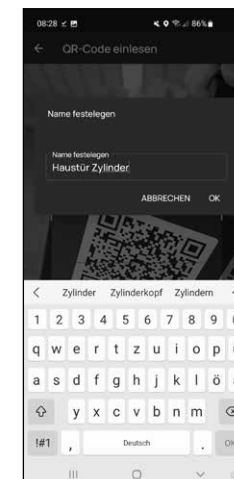

Fig. 6
- 7 In the following window, you will be prompted to assign a name for the cylinder. Where several cylinders and secuENTRY components are used, it is recommended to name the cylinder in such a way that you can directly identify what it is and where the cylinder is located or attached. In the example in these instructions, the cylinder is titled „Front door cylinder“. Confirm the name with „OK“ (Fig. 6).